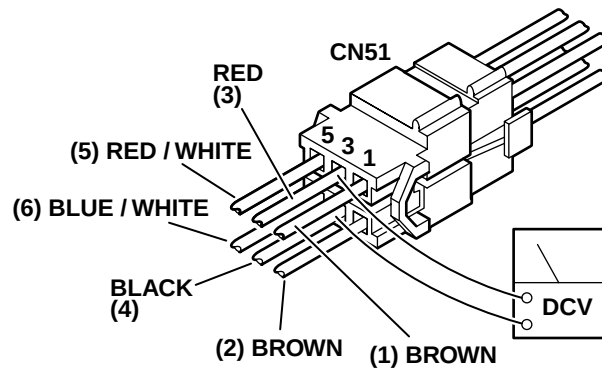

Figure 6-7. Connector CN51
1. Make sure all connectors are connected and turn AC120V operation ON. Using a DC voltmeter, test pin 3(+) and pin 4(-) of CN51. DO NOT disconnect connector CN51. See figure 6-7.